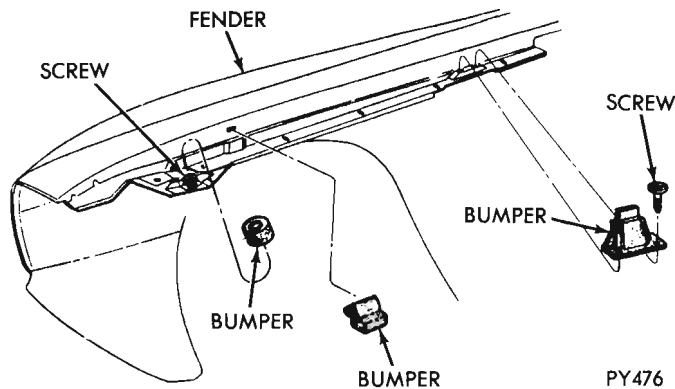

Fig. 10 - Hood Adjusting Screws and Bumpers
**HOOD ADJUSTING SCREWS AND BUMPERS (Fig. 10)**
For ADJUSTING screws and locations of bumpers to fender and hood extension see (Fig. 10).